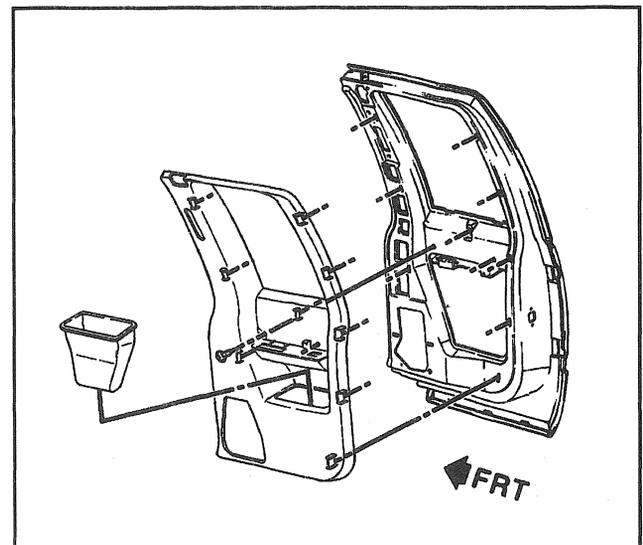

Figure 36—Rear Seat Access Door Trim Panel
4. Trim panel from the door (Figure 36).
1. Retainers to trim panel (Figure 36).